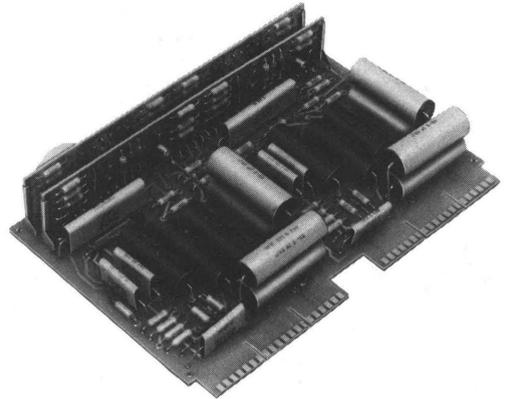

Fig. 6—103A (MD) Interconnecting Unit
**2.06 103A (MD) Interconnecting Unit**—An 8-inch circuit pack for use in providing percent break pulse correction where required for the CO trunk interconnecting units 101A and 102A. (See Fig. 6.) No longer required for 101- or 102-type IUs.